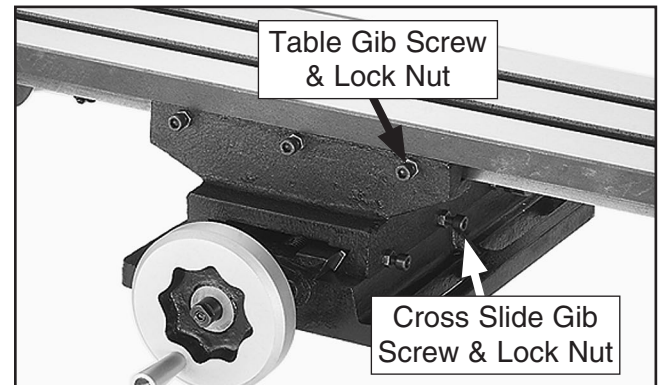

Figure 3. Gib screws and lock nuts.
1. Loosen the lock nuts (see **Figure 3**).